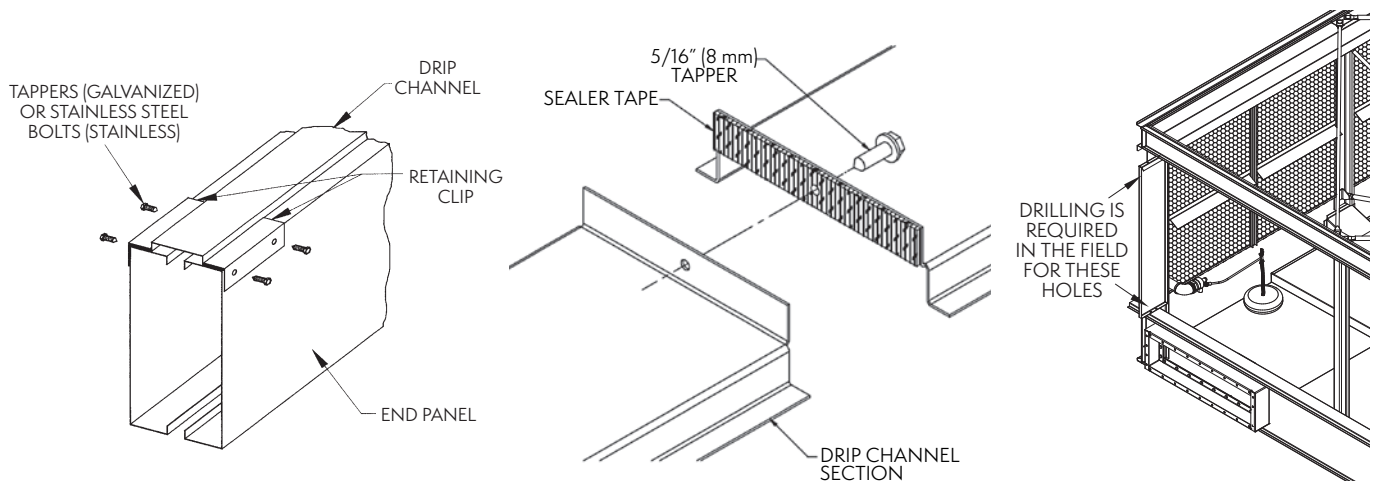

Figure 3a — Drip Channel and Vertical Splash Guard Installation
10. Place the vertical splash guard in the bend of the vertical supports. On galvanized units, attach the vertical splash guard using 5/16" (8 mm) self-tapping screws. On stainless steel units, attach the vertical splash guards using 5/16" (8 mm) stainless steel nuts and bolts. (See figure 3a)
11. Once the bottom of the vertical splash guard has been attached to the drip channel, place the filler cap channel in the upper flanges of the bottom section as shown in Figure 3a. Attach to vertical splash guards using 5/16" (8 mm) tappers (for galvanized units) or stainless steel nuts and bolts (for stainless steel units)